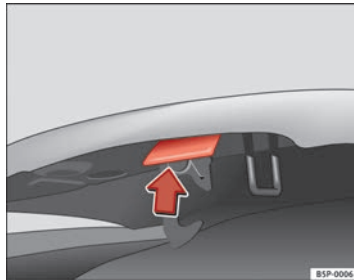

Fig. 168 Release catch under the bonnet
- Press the release catch under the bonnet upwards ⇒ Fig. 168. This will release the arrester hook under the bonnet.